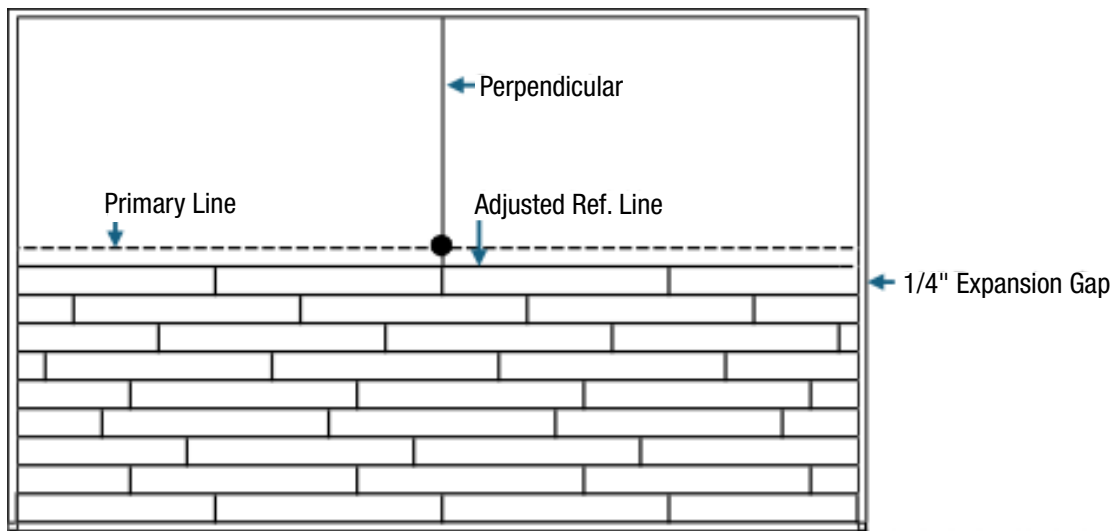

Figure 6
- For plank layout, stagger end joints by at least 6–12 inches for a natural look and avoid aligning ends of adjacent rows. It is recommended that borders at the ends of rows be 6 inches or longer. See Figure 6.